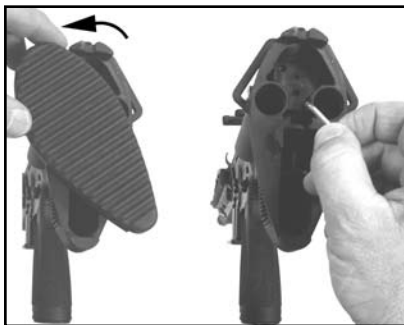

Fig. 20 – Removing the disassembly tool
- a. Rotate the recoil pad counter clockwise one quarter turn and separate the recoil pad from the buttstock. Remove the MR556A1 disassembly tool (Fig. 20, 21).